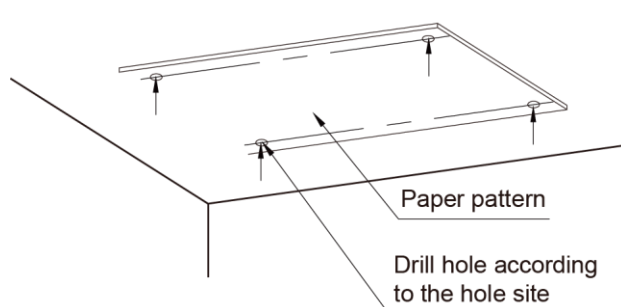
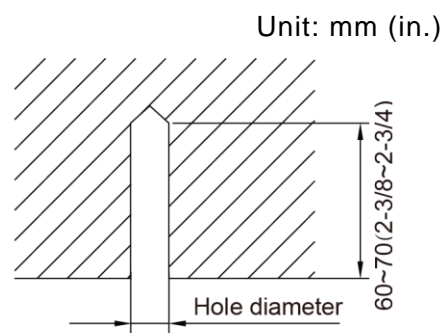

Fig. 4.1.2
Fig. 4.1.3
- 1) Stick the paper pattern on the installation position; drill 4 holes according to the hole site on the cardboard as shown in fig. 4.1.2; diameter of drilling hole is according to the diameter of expansion bolt and the depth is 60~70 (2-1/3~2-3/4) mm, as shown in fig. 4.1.3.